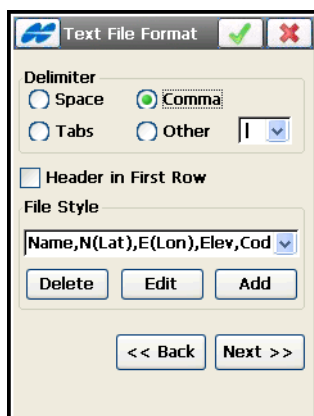

Figure 5-12. Text File Format
2. Specify the format in which data is stored in the file (Figure 5-12).